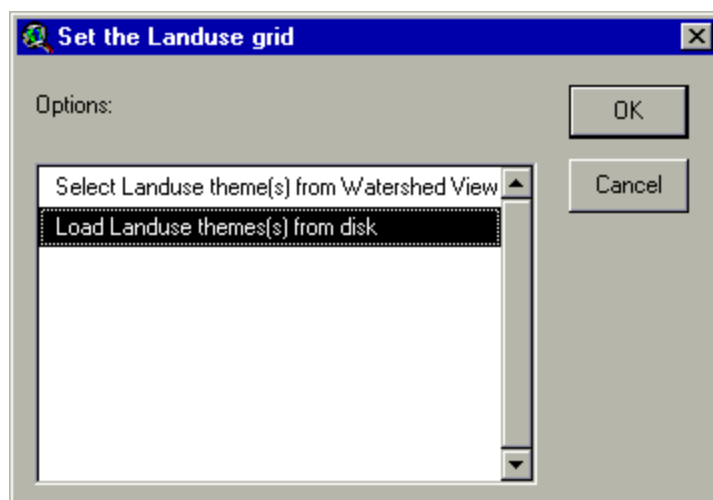

Figure 15.29
- A prompt box will appear (Figure 15.29).